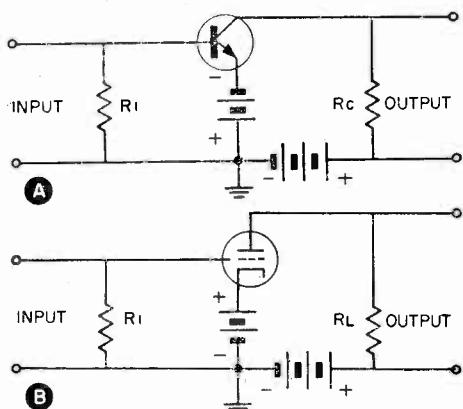
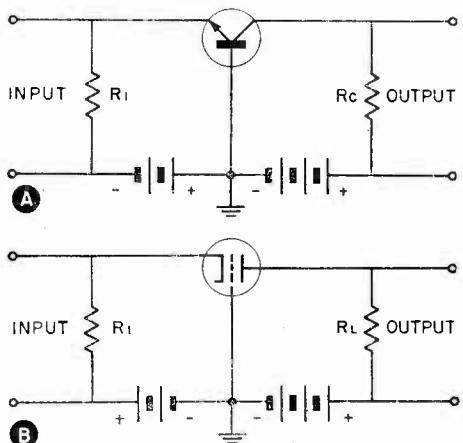
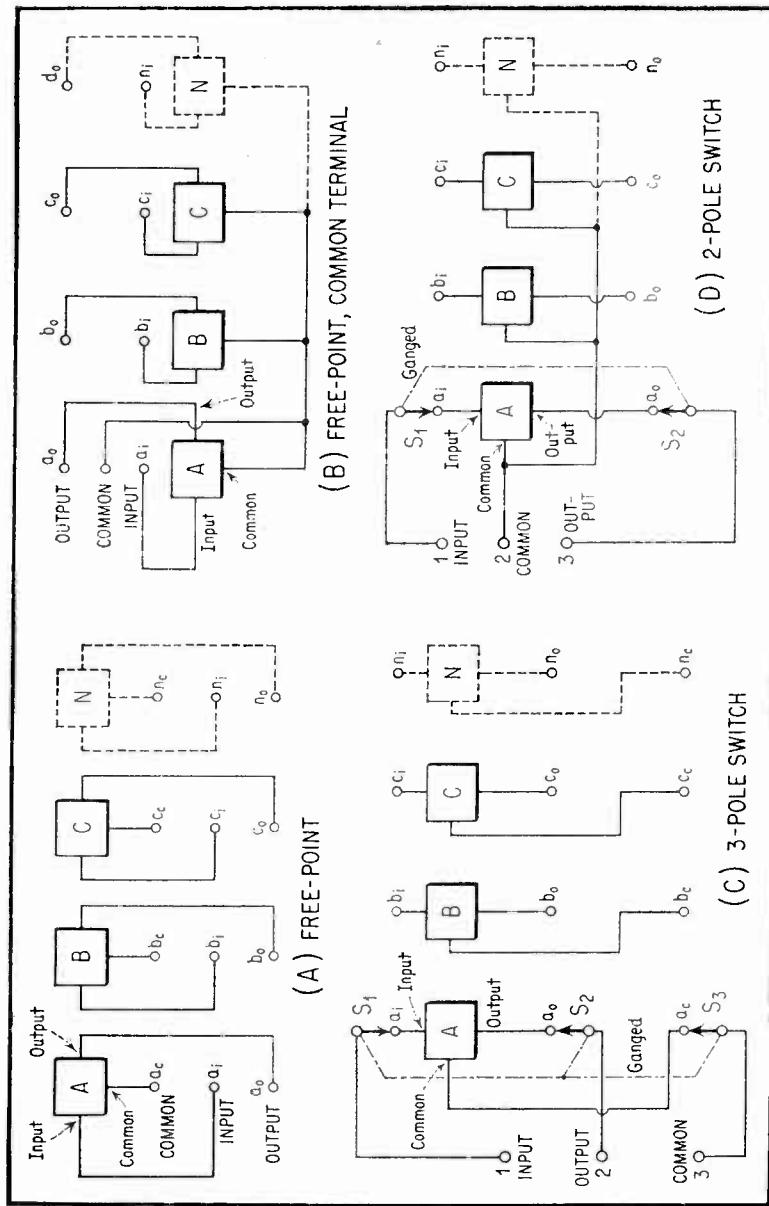

Figure 2a
Figure 2b
Fig. 2. 3-Terminal Configurations.
To service a transistor receiver you should be familiar with the operation of the various stages. You should also be able to identify the input and output of each stage by looking at the schematic. The three types of circuits you will encounter with their tube counterparts are shown in Fig. 2. You must also understand the biasing methods employed in all stages.
Figure 2 shows the principal methods of connecting 3-terminal units in a substitution box. When all three terminals must be accessible externally, 2(A) or 2(C) is
available. The free-point scheme (Figure 2A) requires $3n$ panel binding posts or jacks, where n is the number of components. These terminals are arranged in three rows: a_0 to n_0 for the input, a_1 to n_1 for the output, and a_e to n_e for the COMMON terminal of each component. When internal switching is permissible and all three terminals must be accessible externally, a 3-pole switch ($S_1S_2S_3$) is required, as shown in Figure 2(C).
When the common terminals of the 3-terminal units may be connected together, the simplified schemes shown in Figures 2(B) and 2(D) are available. In the free-point arrangement (Figure 2B), the number of 3-terminal units. This is a saving of $n-1$ over the number of terminals required by the full-free point arrangement (Figure 2A). The panel terminals are arranged in two rows (a_1 to n_1 for the input, and a_0 to n_0 for the output). A single COMMON terminal on the panel is connected to the common terminal of each component. In the switch arrangement (Figure 2D), a 2-pole switch (S_1S_2) takes the place of the 3-pole switch required in Figure 2(C).